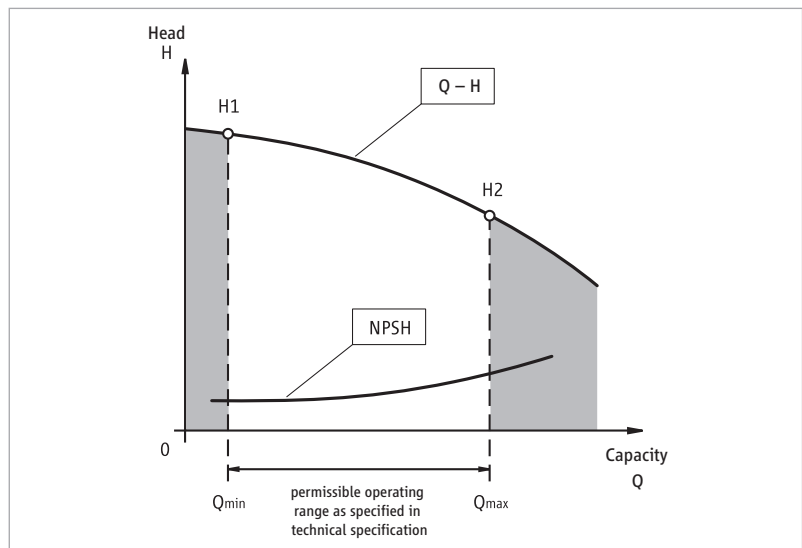

Fig. 2
3. For satisfactory operation of HERMETIC-pumps in refrigerating plants, the pumps must be used within the permissible flow range (pls. see Fig. 2).